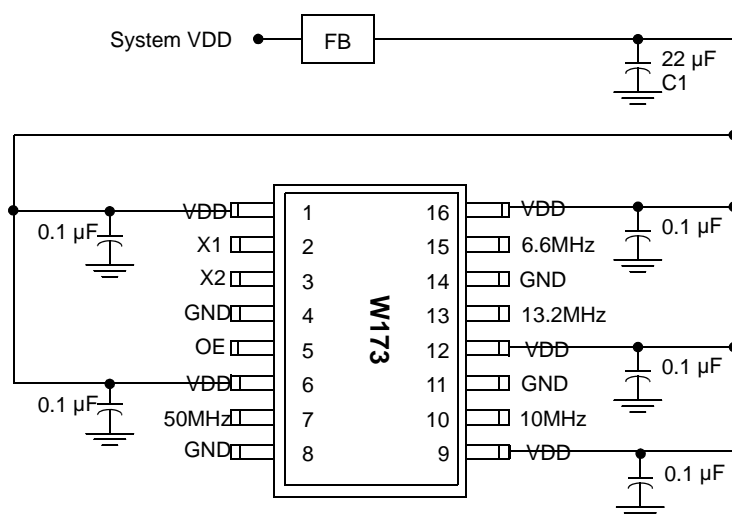

Figure 1. Test Circuit
The recommended single voltage power supply configuration for the W173 is shown schematically in *Figure 1*. These recommendations should be followed to both ensure adequate device performance and to control EMI. The major considerations can be summarized as follows:
- All AC tests are performed using the circuit shown in *Figure 1* to simulate typical system load conditions. Measurements are taken at the load. Threshold voltage for timing measurements is 1.5V.